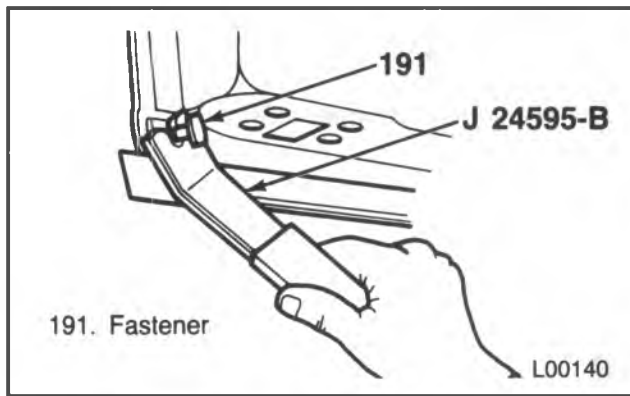

Figure 53 — Weatherstrip Fastener
1. Weatherstrip to door fasteners using J 24595-B (figure 53).